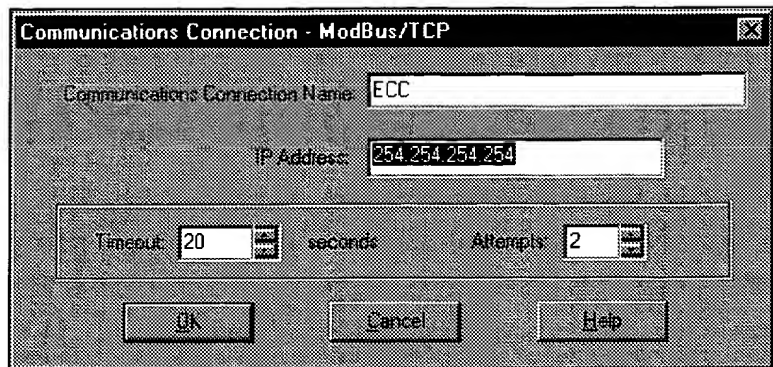

Figure A-2 Communications Connection MODBUS/TCP dialog box
7. The Communications Connection—Modbus/TCP dialog box displays (Figure A-2).